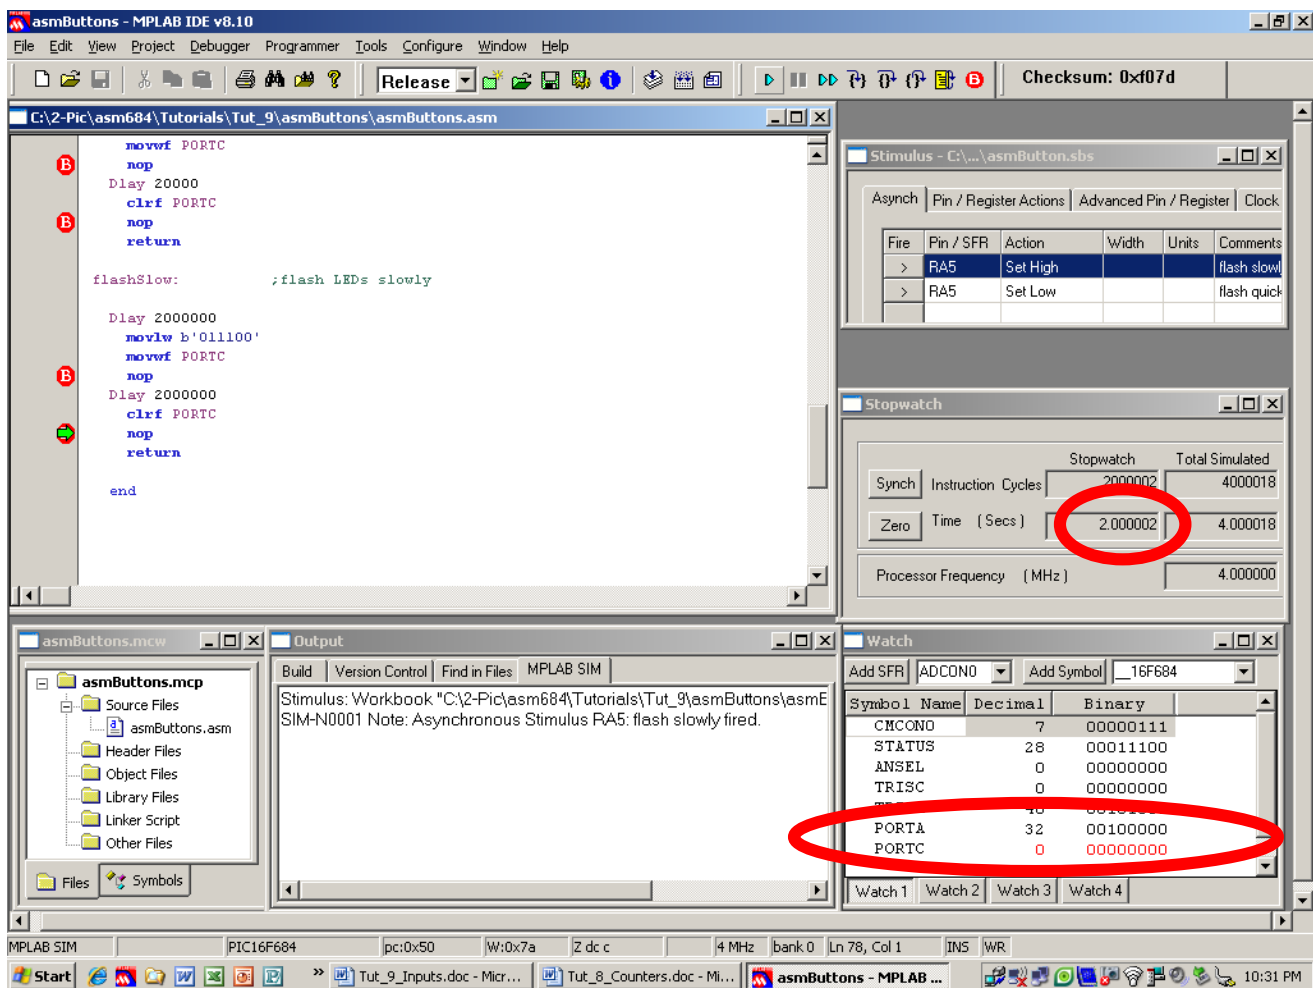

Fig 9.6
9. Simulate LED flashing slowly (part 2) (Fig 9.6):